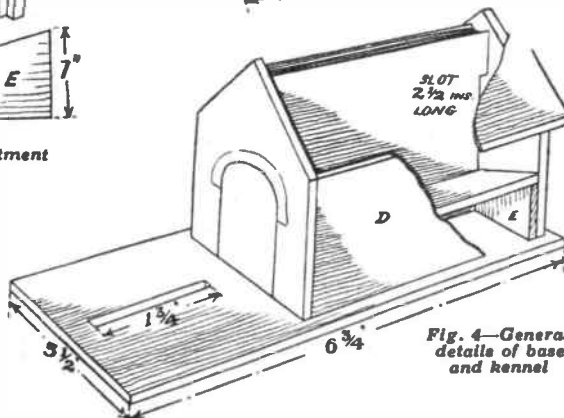

Fig. 4—General details of base and kennel
The rails (E), it will be noted, work up and down in the slots formed in the partition as shown in the cut-away view of the interior at Fig. 4.
The size of the base for the model is given in Fig. 4, and it will be noted that there is a mortise $1\frac{1}{2}$ ins. long at a distance of $\frac{3}{4}$ in. from one end. This is to take the tenon which connects up the feet of the dog pictured in Fig. 5.